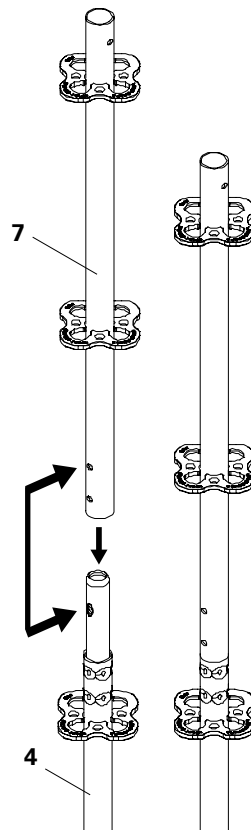

Fig. A2.8
1. Insert Top Standard (7) into Standard UVR (4).
2. Align the insert holes with each other. (Fig. A2.8)
1. Insert Top Standard (7) into Standard UVR (4). (Fig. A2.8)